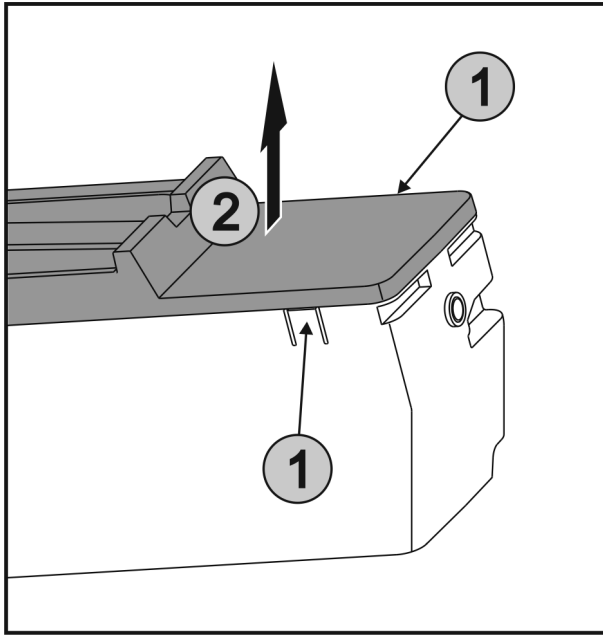

Fig. 38
- ▶ Press the lugs Fig. 38 (1) on both sides of the EasyTwist-Ice simultaneously and take off the cover Fig. 38 (2) upwards.